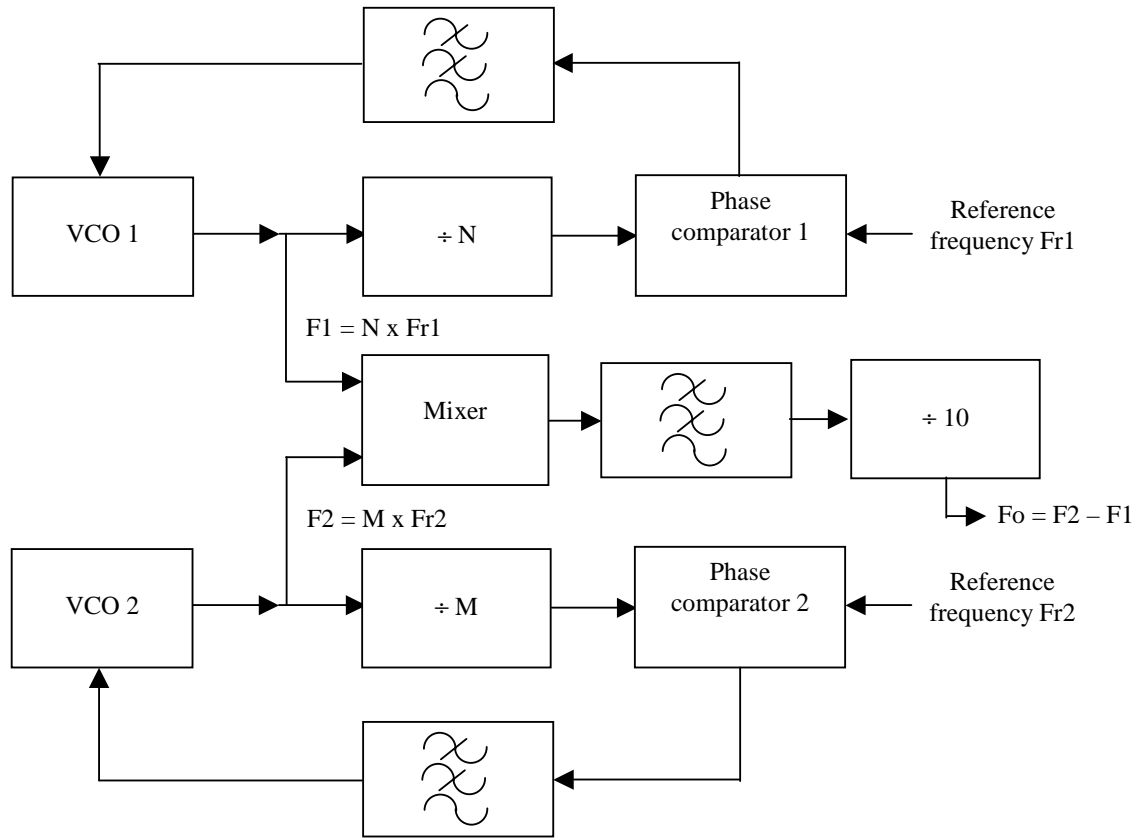

Figure 2
The block diagram of the new algorithm is showed in Figure 2. For getting short settling times and low output noise, it is necessary that we use reference frequencies substantially high. If we make $Fr1 = 99.9\text{kHz}$ and $Fr2 = 100\text{kHz}$ in Figure 2, we can rewrite equation (1) as: